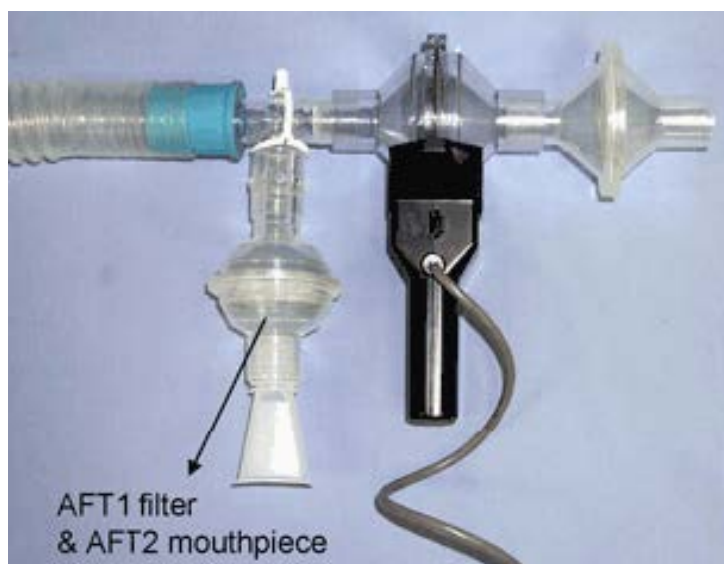

Figure 4: Schematic of airflow accessories with AFT1 filter and AFT2 mouthpiece
5. Replace calibration syringe with AFT1 filter and AFT2 mouthpiece (Fig. 4).